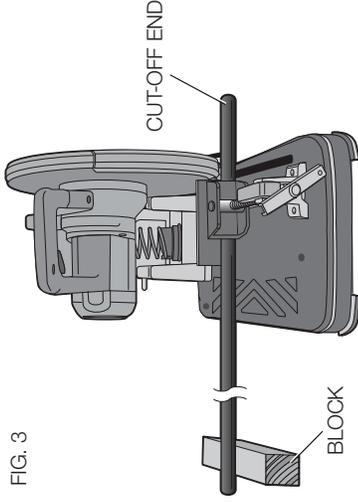

FIG. 3
- Long workpieces must be supported by a block so it will be level with top of base (Fig. 3). The cut-off end should be free to fall downward to avoid wheel binding.